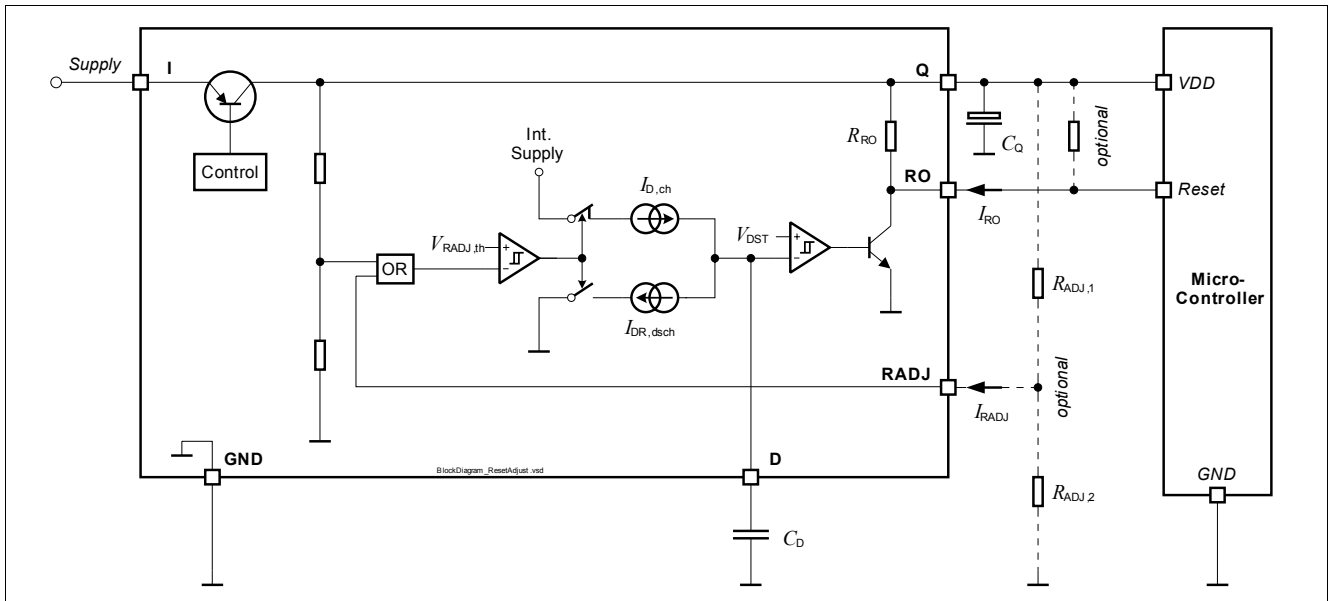

Figure 7 Block Diagram Reset Circuit
- $R_{ADJ,1}$, $R_{ADJ,2}$: Resistors of the external voltage divider, see Figure 7.
all voltages with respect to ground, direction of currents as shown in **Figure 7** (unless otherwise specified).
all voltages with respect to ground, direction of currents as shown in Figure 7 (unless otherwise specified).